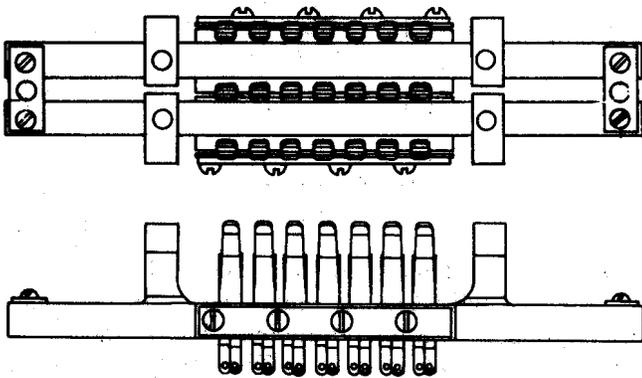

Fig. 5—310 Jack
**2.05 310:** (A & M only.) This apparatus should be ordered only for additions or maintenance of existing equipment arranged for this type of apparatus. This multicontact jack (Fig. 5) is used with the 400-point line finder as an emergency switching jack in conjunction with the 226 plug which engages with the jack in either of two positions. The 310 jack is equipped with 21 pairs of contact springs insulated from each other. This jack is provided with guide holes to engage with guide posts of associated plugs for centering contacts of the plugs and the jacks. The 211B switch is recommended in place of the 310 jack and the 226 plug.